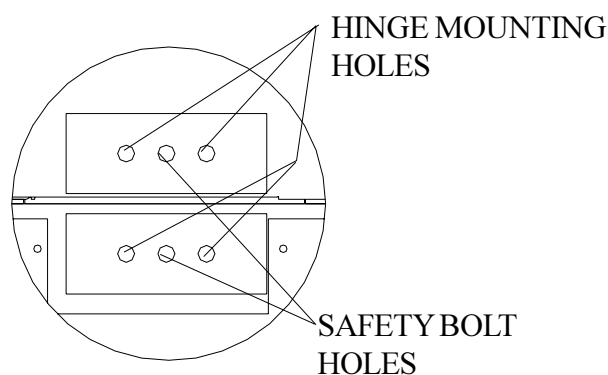

Figure-2D
STEP 5: Remove cover below loading doors on top section. You should see two blocks welded on each section with two tapped holes per block (See Figure-2D). These are your hinge mounting blocks.
STEP 6: Remove cover below loading doors on top section. You should see two blocks welded on each section with two tapped holes per block (See Figure-2D). These are your hinge mounting blocks.